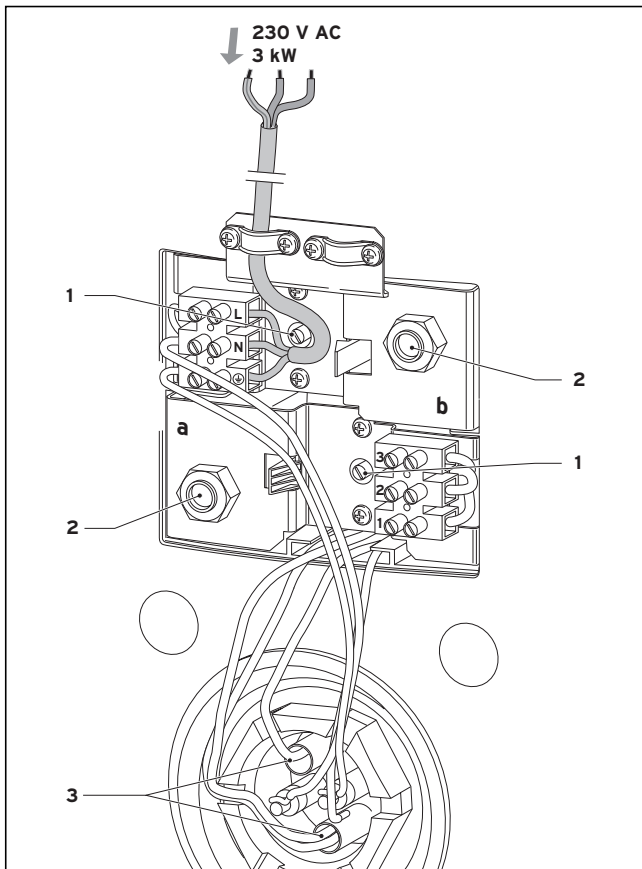

Fig. 9 Immersion heater electrical connections
Install a separate electrical supply to the immersion heater in accordance with the current IEE wiring regulations (BS 7671). The immersion heater must be wired in 3 x 2.5 mm² heat-resisting cable from a double pole isolating switch. The circuit must be protected by a 13 amp fuse. The connection details for the immersion heater are shown in fig. 9.
- Upon completion of the commissioning procedures, set the DHW thermostat knob on the uniSTOR to approx. 60 °C, and set the back up immersion heater (fig. 9) thermostat to 60 °C.